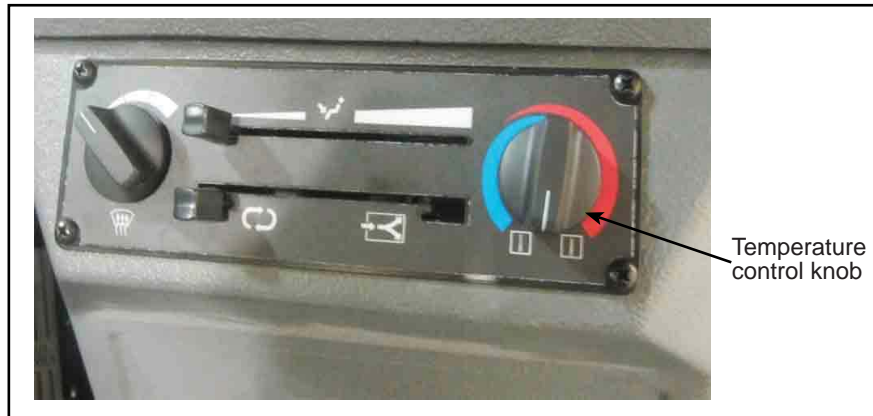

Figure 1 - Operator's Heater Control Panel
- 1.1. Locate the operator's heater control panel in the driver's compartment. See Figure 1.